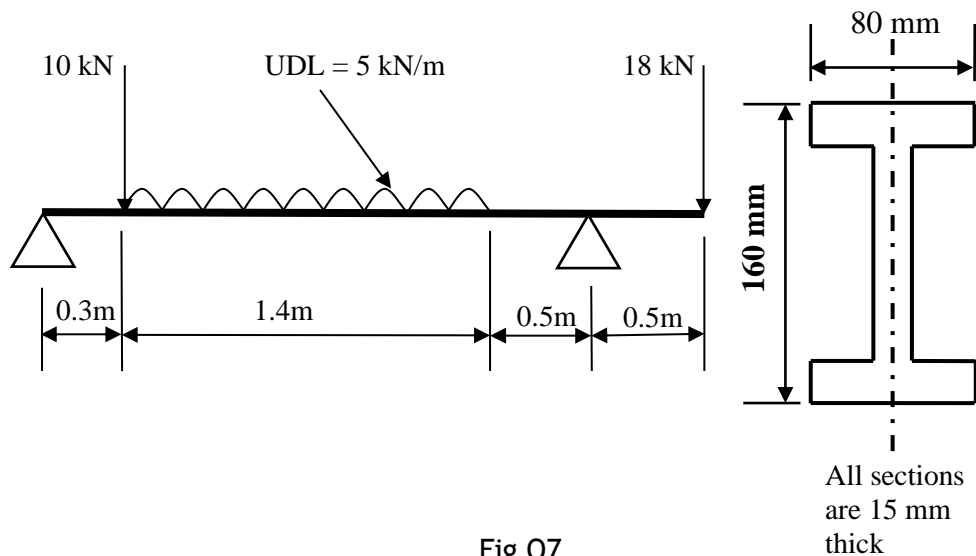

Fig Q7
7. An "I" section beam is loaded as shown in Fig Q7.